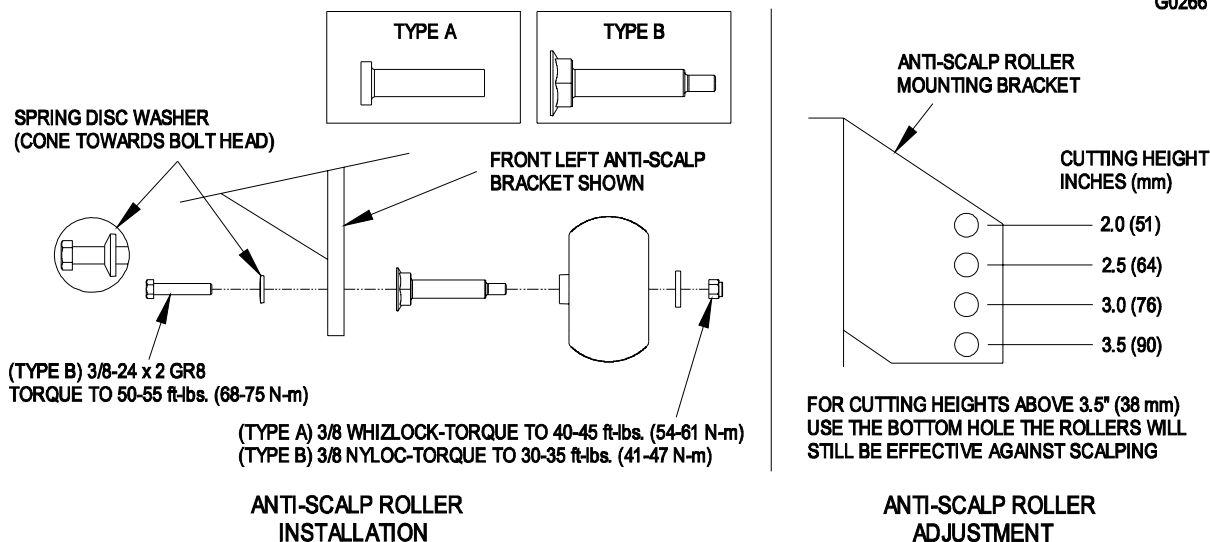

FIGURE 10
- g) Adjust anti-scalp rollers for Normal Operating Conditions. Place rollers in one of the positions shown in Figure 10. Rollers will maintain 3/4 in. (19 mm) clearance to the ground to minimize gouging and roller wear or damage.
Two types of anti-scalp roller assemblies are available. See Figure 10 to determine which assembly has been installed on the unit. Torque hardware as specified, or loss of roller may result.